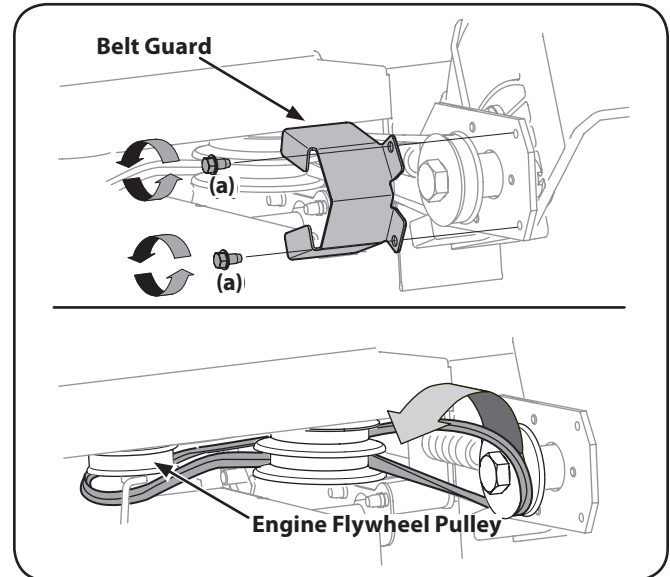

Figure 7-2
3. Remove the spindle sheaves belt guard by removing the two self-tapping screws (a) which secure it to the blade plate assembly. See Figure 7-2.
4. Carefully remove the belt from off of the pulleys, again making sure to note the orientation of the belt. Discard the belt. See Figure 7-2.
NOTE: Make certain that the "V" side of the belt is seated into the top pulley and the flat side of the belt is seated into the bottom pulley. See Figure 7-2.